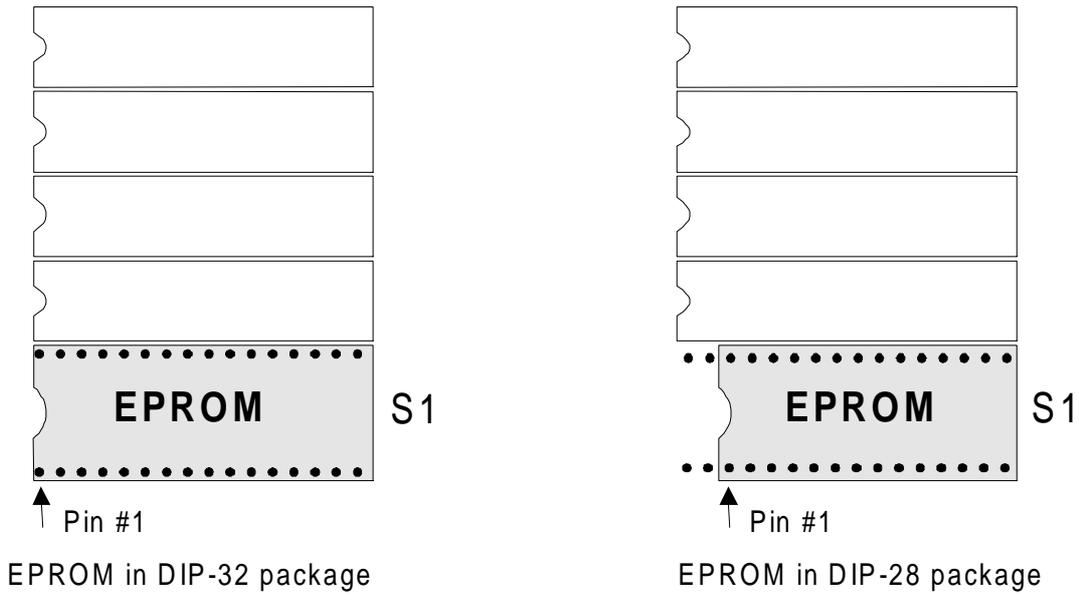
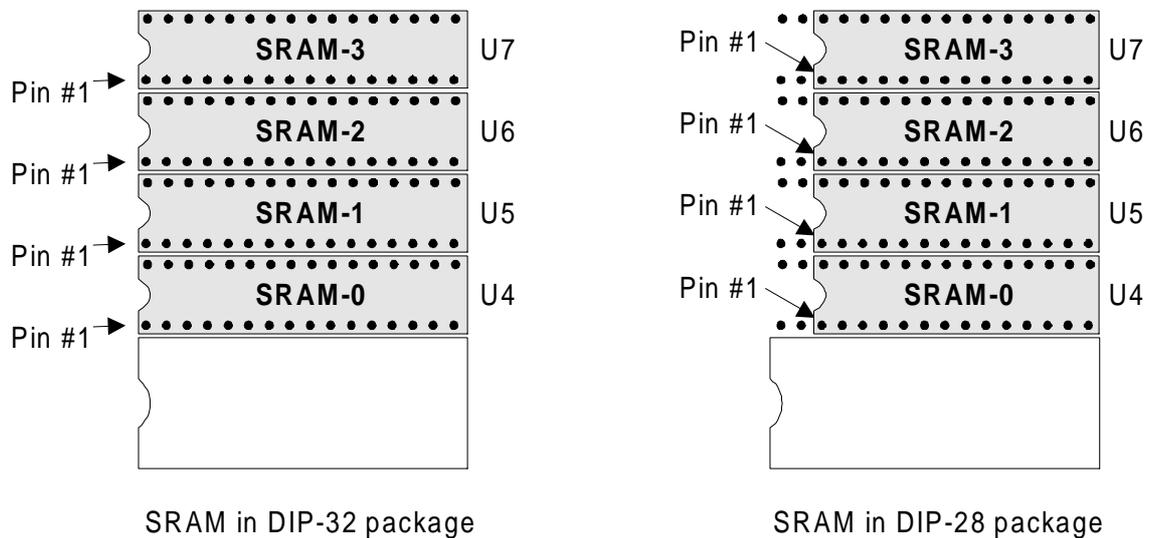
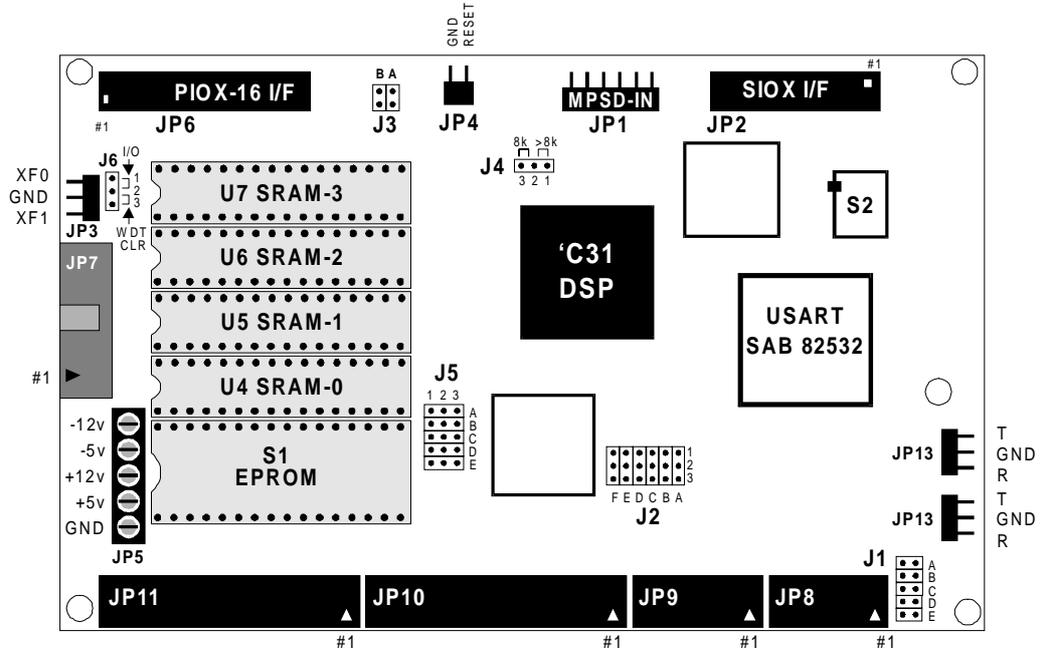

Fig.3-1. Installation of EPROM chip onto *TORNADO-E31* board.
Fig.3-2. Installation of SRAM chips onto *TORNADO-E31* board.
Fig.A-1. On-board layout for *TORNADO-E31*.
*TORNADO-E31* also provides 8-bit of general purpose parallel digital I/O signals (*DIO-0..7*), which are wired to the on-board JP7 connector (see fig.2-2 and fig.A-1) and 2-bit general purpose I/O (*XF0/XF1*), which are wired to the on-board JP3 connector.
The power to *TORNADO-E31* controller should apply via on-board JP8 connector (see fig.A-1). For proper operation the board requires +5v power only, whereas optional -5v and  $\pm 12v$  power inputs are routed to the on-board SIOX and PIOX-16 daughter-card sites.
Installation of EPROM chip (refer to fig.2-2 and fig.A-1) into the S1 socket on *TORNADO-E31* board should be performed while the board power is off (fig.3-1).
In order to install EPROM chip into the dedicated socket on *TORNADO-E31* mainboard follow the recommendations below (see fig. 3-1):
Installation of SRAM chips (refer to fig.2-2 and fig.A-1) into the U4..U7 sockets of SRAM bank on *TORNADO-E31* board should be performed while the board power is off (fig.3-2).
In order to install SRAM chips into the dedicated socket on *TORNADO-E31* mainboard follow the recommendations below (see fig. 3-2) :
Generally, the following first-time configuration efforts should be done prior usage and applying power to *TORNADO-E31* DSP controller (refer to fig.A-1 for on-board jumpers and connectors list):
Board layout for *TORNADO-E31* configuration jumpers and connectors is presented at fig.A-1.